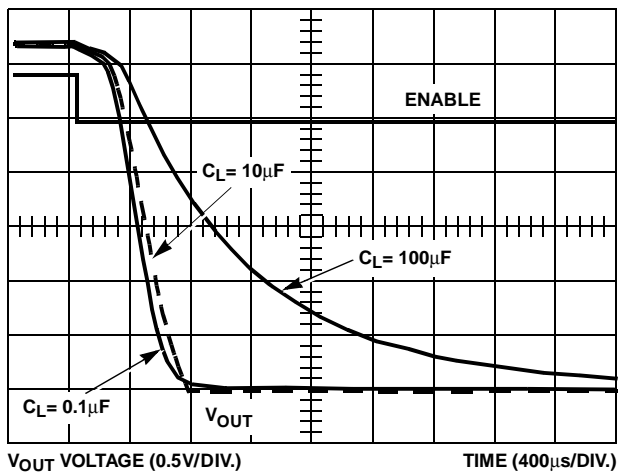

FIGURE 8. SLOW TURN-OFF vs C_L , $R_I=8\Omega$
The ISL6118 has two shutdown modes. When disabled with a load current less than the current regulation (CR) level the ISL6118 shuts down in a controlled manner using a 500nA constant current source controlled ramp. When disabled during CR or if the timer has expired the ISL6118 quickly pulls down the output thereby quickly removing the faulted load from the voltage bus. See Figures 8 and 9 for illustrative waveforms of each shutdown mode.